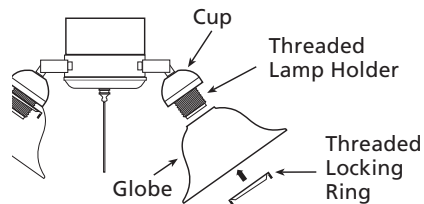

Figure 9c - Multi-Light Fixture with locking rings
1. Place globe over threaded lampholder in cup. Install and hand tighten threaded locking ring on lampholder as shown in Figures 9c and 9d.